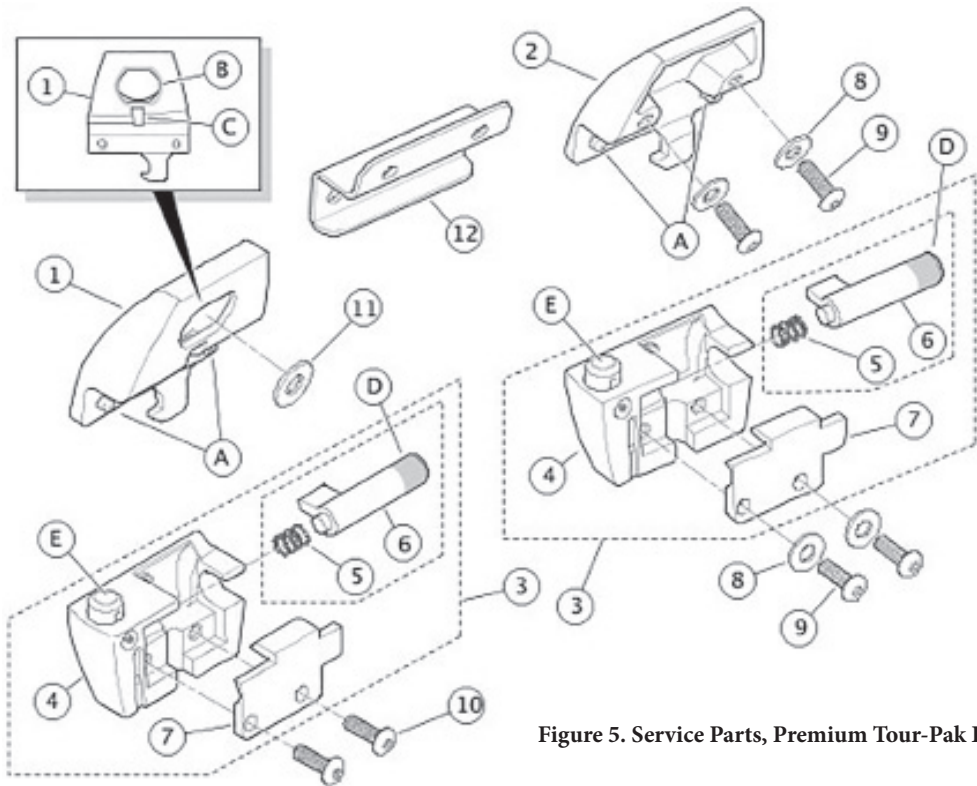

Figure 5. Service Parts, Premium Tour-Pak Latch Kit
See Figure 5 and Table 1.
1. See Figure 5. Get the upper forward Tour-Pak latch (1) and 6.4 mm ( $\frac{1}{4}$  in) flat washer (11) from the kit, and the lockset removed from the Tour-Pak lid earlier.
4. Install the lock guide (7), in the proper orientation. Install the jam nut (6) and tighten per service manual instructions.
5. For CVO models with power locks: Assemble the remaining components per the service manual. For ALL OTHER models: Follow the service manual to install the cam washer, cam hook (5), flat washer (13) and lockwasher (4) onto the lockset threaded stud in the proper orientation.
6. Apply a few drops of Loctite 243 - Blue to the clean lockset stud threads. Install the hex nut (3) and tighten per the service manual.
7. See Figure 5. Get the upper rear Tour-Pak latch (2), two #8-32 x 16 mm ( $\frac{5}{8}$  in) long pan head screws (9) and two #10 (5 mm) flat washers (8) from the kit.
9. Align the latch over the two holes in the lid, with the locating pins (A) in the holes on the lid flange.
1. Open the Tour-Pak lid. See Figure 5. Remove the fasteners to free the lower latch assembly (3) from the Tour-Pak.
2. Remove the latch cover (7), catch (6) and catch spring (5).
4. Install the catch spring and catch into the lower latch (4) chamber.
5. Install the latch cover, and press the catch release button (D) against the spring to verify proper operation.